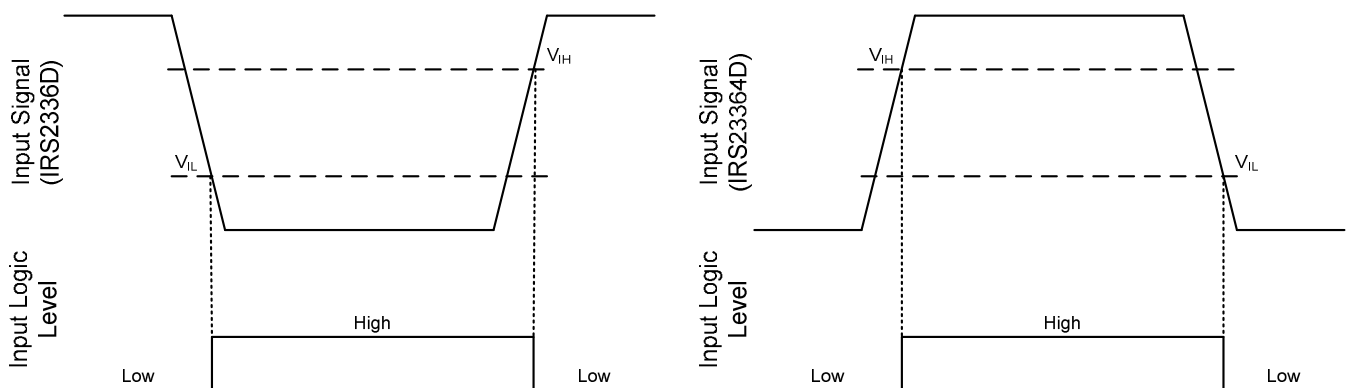

Figure 8: HIN & LIN input thresholds
The inputs of this IC are compatible with standard CMOS and TTL outputs. The IRS2336xD family has been designed to be compatible with 3.3 V and 5 V logic-level signals. The IRS2336(D) features an integrated 5.2 V Zener clamp on the HIN, LIN, ITRIP, and EN pins; the IRS23364D does not offer this input clamp. Figure 8 illustrates an input signal to the IRS2336(D) and IRS23364D, its input threshold values, and the logic state of the IC as a result of the input signal.